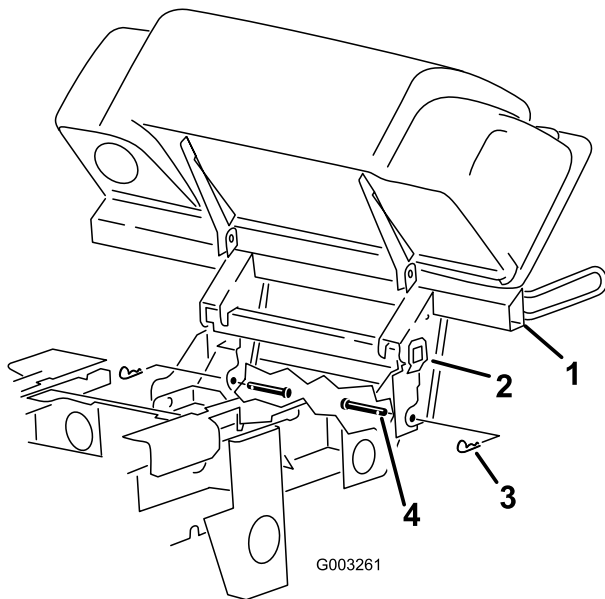

Figure 8
2. Install the 2 clevis pins into the hood assembly and bagger mounting bracket. Secure them with 2 hairpin cotter pins (Figure 8).